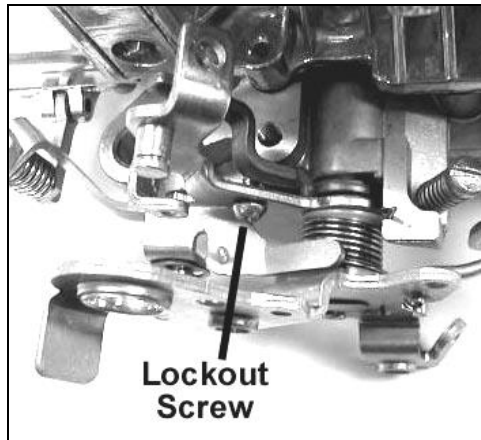

Figure 3—Ford applications
3. Remove the lock out screw from the kickdown lever (Figure 3).